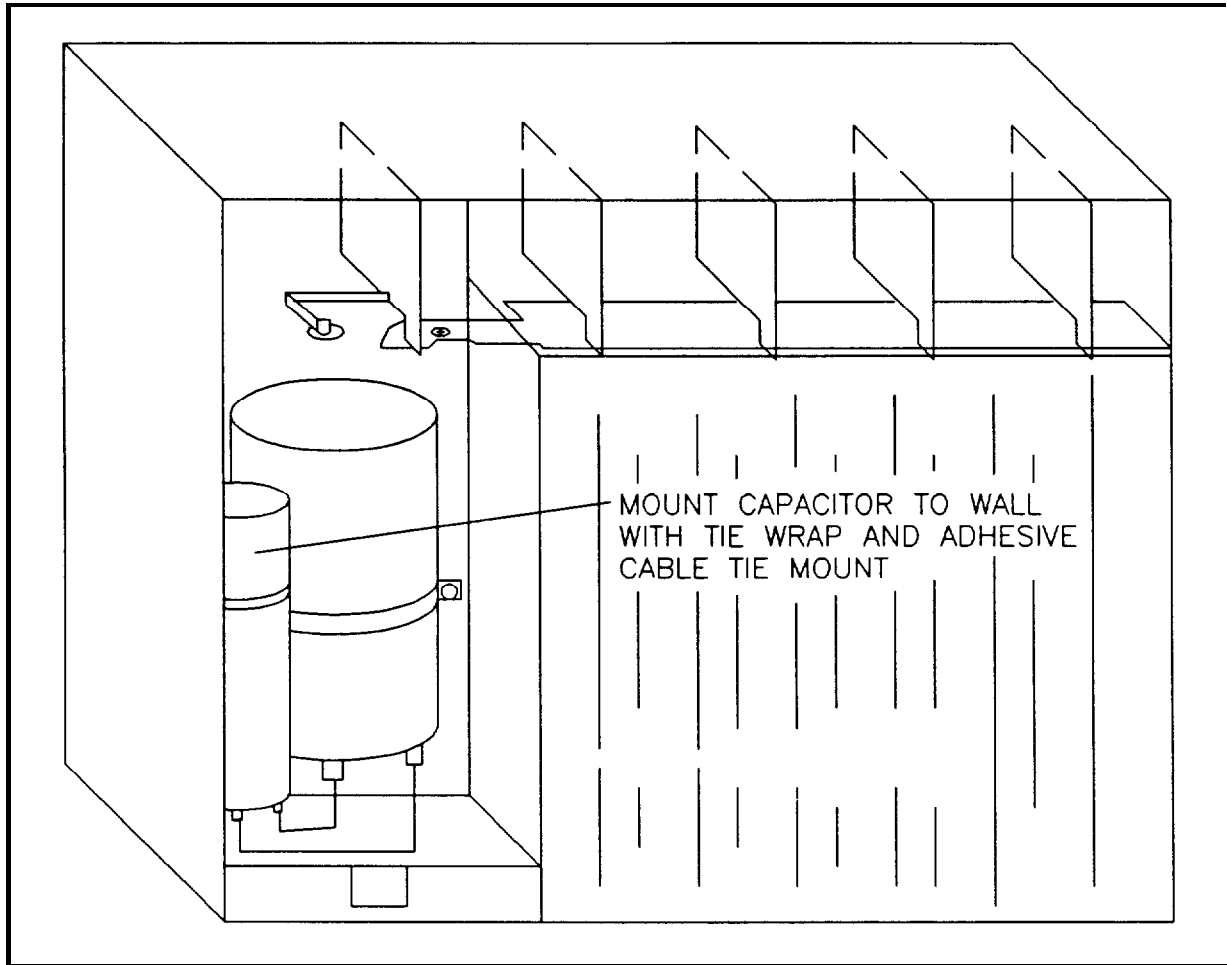

Figure 4 Munting of Hard Start Capacitor
13. Attach the cable tie mount to the inside of the air conditioner. Insert a cable tie through the mount and secure the hard start unit. See figure 4.